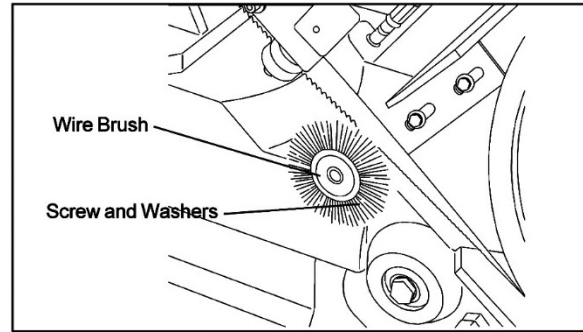

Figure 20: Wire brush
- Remove attaching screw, spring washer and washer. Remove and discard brush (see Figure 20).